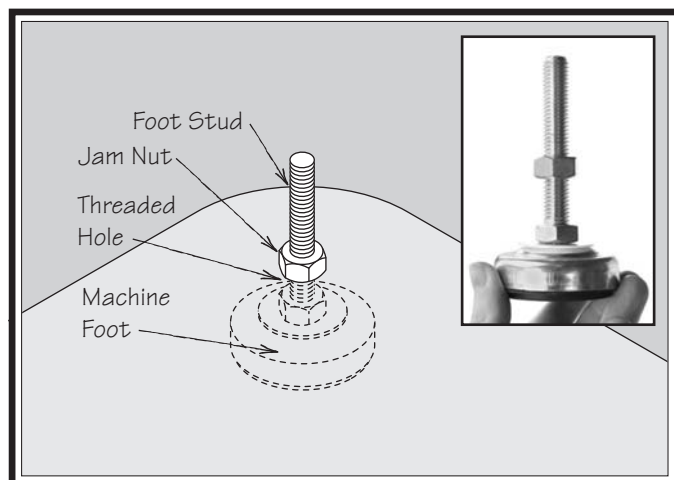

Figure 7. Machine feet.
After the machine is placed in the final location, and before the lifting apparatus is removed, you should install the machine feet. Included with your machine are four cushioned feet with built-in adjustment studs (see **Figure 7**). These feet are easily installed and provide for accurate machine leveling.
4. Thread the studs into the machine base from the bottom up until the studs emerge from the cabinet floor approximately 2" (see **Figure 7**).